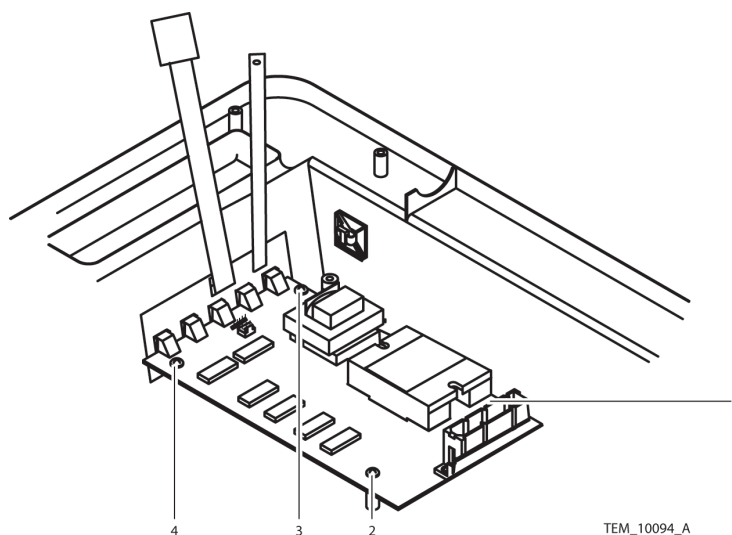

Figure 26. Control PCB Screws
17. Remove the screws holding the Control PCB onto the front cover assembly. See Figure 26.